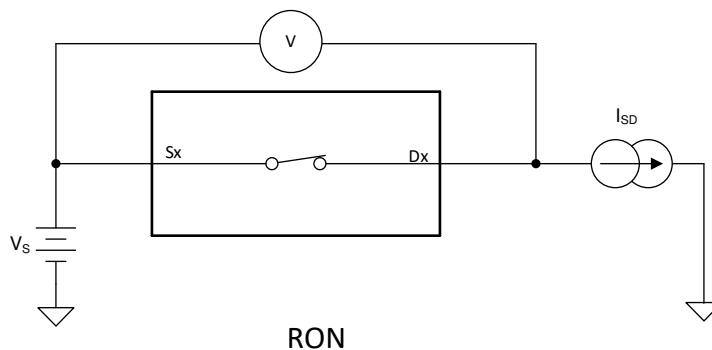

Figure 8-1. On-Resistance Measurement Setup
The on-resistance of a device is the ohmic resistance between the source (Sx) and drain (Dx) pins of the device. The on-resistance varies with input voltage and supply voltage. The symbol R_{ON} is used to denote on-resistance. The measurement setup used to measure R_{ON} is shown in Figure 8-1. Voltage (V) and current (I_{SD}) are measured using this setup, and R_{ON} is computed with $R_{ON} = V / I_{SD}$: